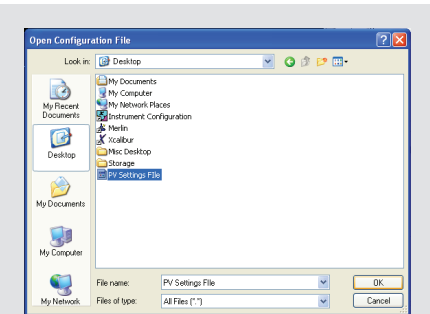

Figure 7.1
2. A dialog window asking for the location and name of the Configuration File created in section 6.2 will appear. Choose the File and click OK (Figure 7.1)